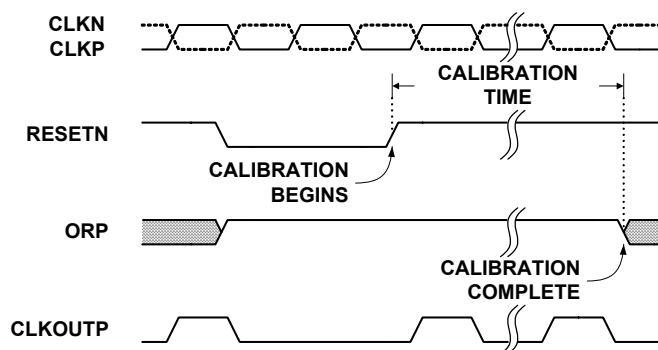

FIGURE 23. CALIBRATION TIMING
The calibration sequence is initiated on the rising edge of RESETN, as shown in Figure 23. The over-range output (OR) is set high once RESETN is pulled low, and remains in that state until calibration is complete. The OR output returns to normal operation at that time, so it is important that the analog input be within the converter's full-scale range to observe the transition. If the input is in an over-range condition, the OR pin will stay high, and it will not be possible to detect the end of the calibration cycle.